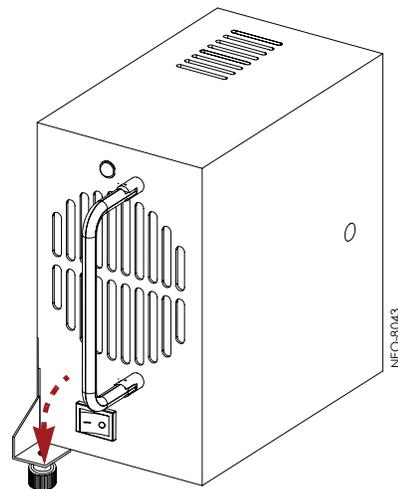

Figure 1. Power Supply Latch
3. If **replacing** an existing power supply, remove the old module (Figure 1).